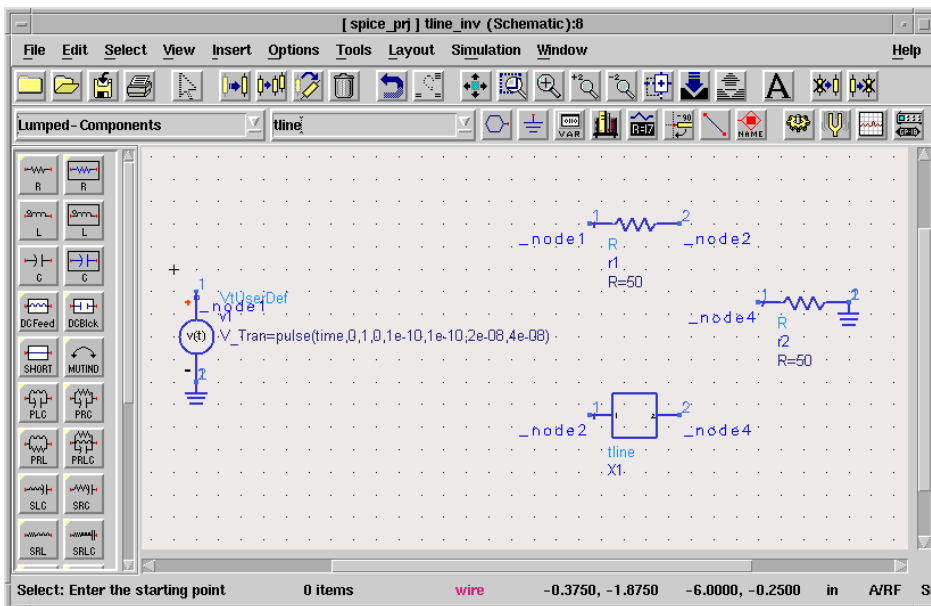

Figure 2-3. Translated Schematic with Subcircuit (*tline\_inv.dsn*)
This completes the circuit. Your combined `inverter.dsn` and `tline.dsn` should now appear similar to the `tline_inv.dsn` schematic design shown in Figure 2-3. This design is used in the simulation example in Chapter 4, Simulating the Translated Netlist.
1. Open the schematic *tline\_inv.dsn* that was created as a result of “Including Models and Subcircuits” on page 2-18 and shown in Figure 2-3.